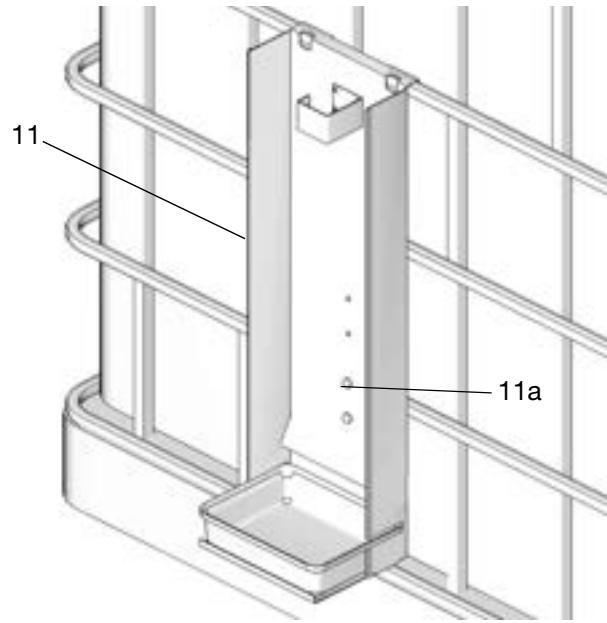

FIG. 20
1. Position the meter tray (11) on the side of the IBC tank (FIG. 20).
2. Secure the tray in place using 4 screws (11a) (FIG. 20).